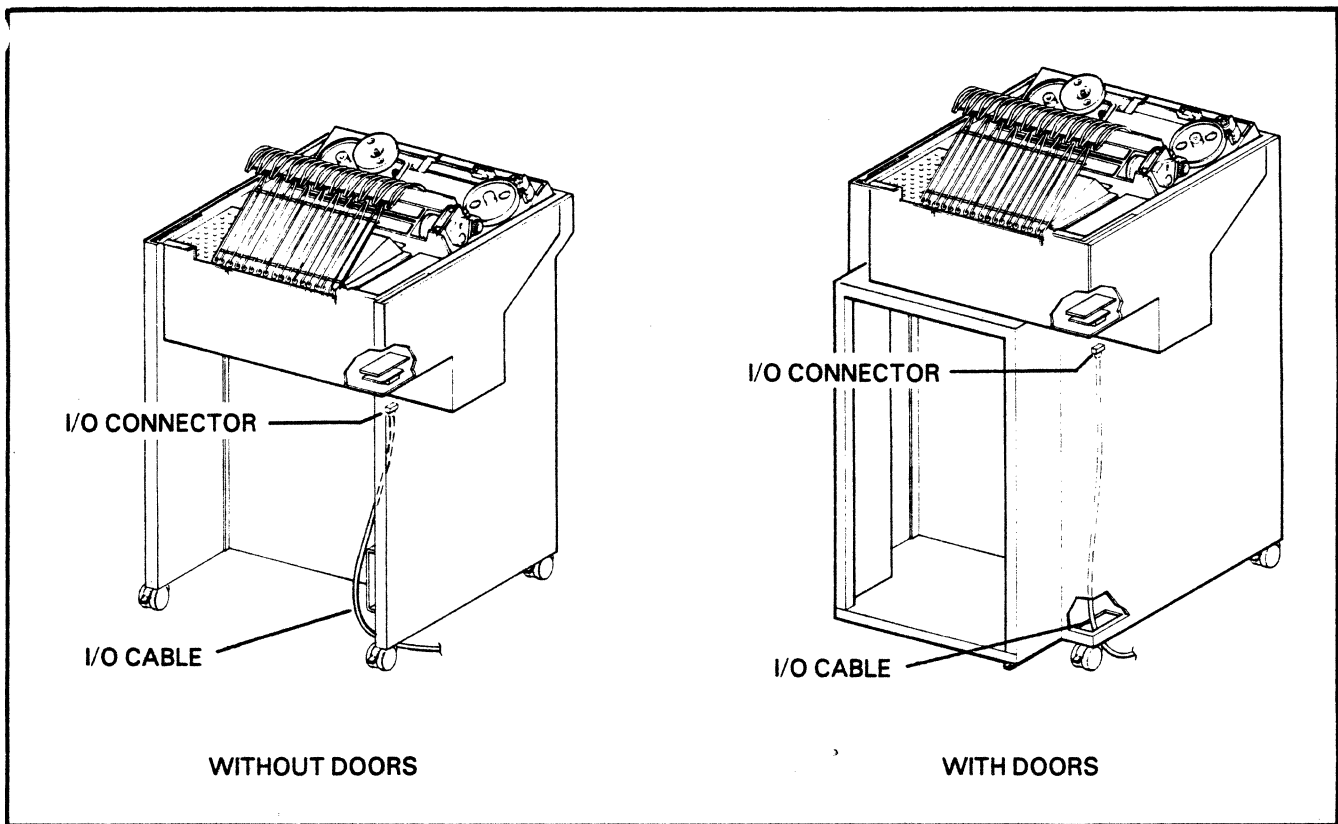

FIGURE 1-5. I/O CABLE INSTALLATION
14. Install the I/O cable through the cutout in the back of the printer (bottom right side). See Figure 1-5. The cable and its connector must be CSA certified or rated UL94V-1 or better. Check to be sure the bonnet latches correctly. If it doesn't, the printer may have to be leveled. Leveling is achieved by rotating the appropriate caster's adjusting nut; clockwise will raise the caster, counter-clockwise will lower the caster.